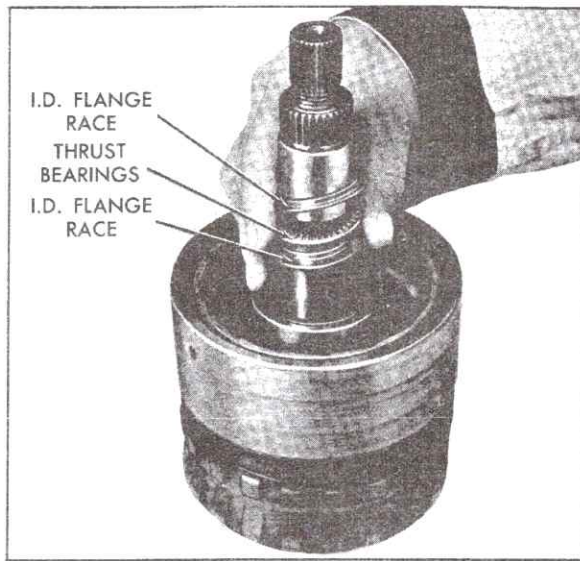

Fig. 7-170 Installing Races and Thrust Bearing over Sun Gear Shaft
o. Lubricate small diameter race with petrolatum and install race on center support with flange facing up, Fig. 7-170.